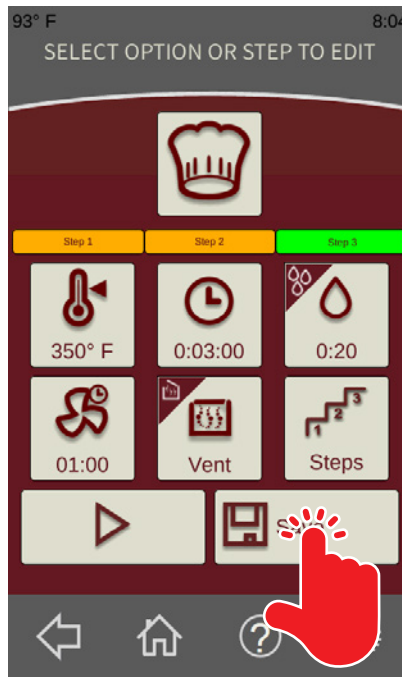

Fig. 37
1. From the **Standard Recipe Run Screen** (Fig. 37), touch the Save button to save the current recipe. The **Recipe Naming Screen** should be displayed.